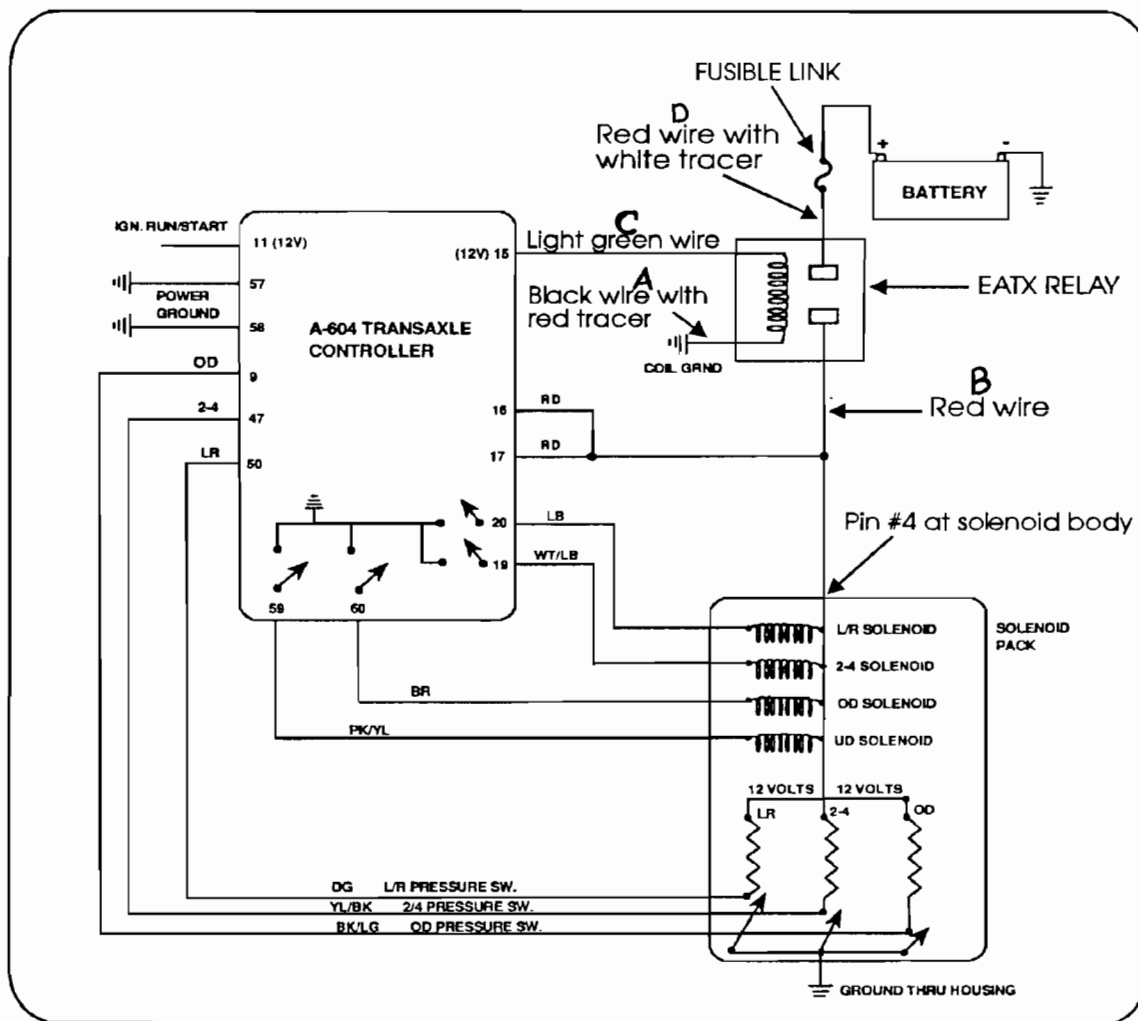

Figure 78
- CAUSE:** The cause may be a loss of voltage supply to pin number 4 at the solenoid body which is controlled by the EATX relay. The EATX relay (Electronic Automatic Transaxle) is operated by the controller. Its purpose is to provide battery voltage to the solenoids and switches. When the controller receives an ignition run signal from the ignition switch, it will first perform a number of circuit checks and a EATX relay check. The controller will initialize and activate the EATX relay if no circuit problems are found. One side of the EATX relay coil is grounded and the controller applies battery voltage to the opposite side. This power comes from the controllers direct battery supply circuit. When the EATX relay contacts close, battery voltage is supplied to pin number 4 at the solenoid body and pins 16 & 17 on the controller. This is referred to as switched battery voltage (See Figure 78). The controller uses pins 16 & 17 to monitor the relay function and applied voltage. If the contacts in the EATX relay cannot close, switched battery voltage cannot be supplied to pin number 4 at the solenoid body or pins 16 & 17 at the controller causing the 2nd gear starts and no upshifts even after an ignition cycle. Fault code 15 may be accompanied with this fault which means EATX relay off.